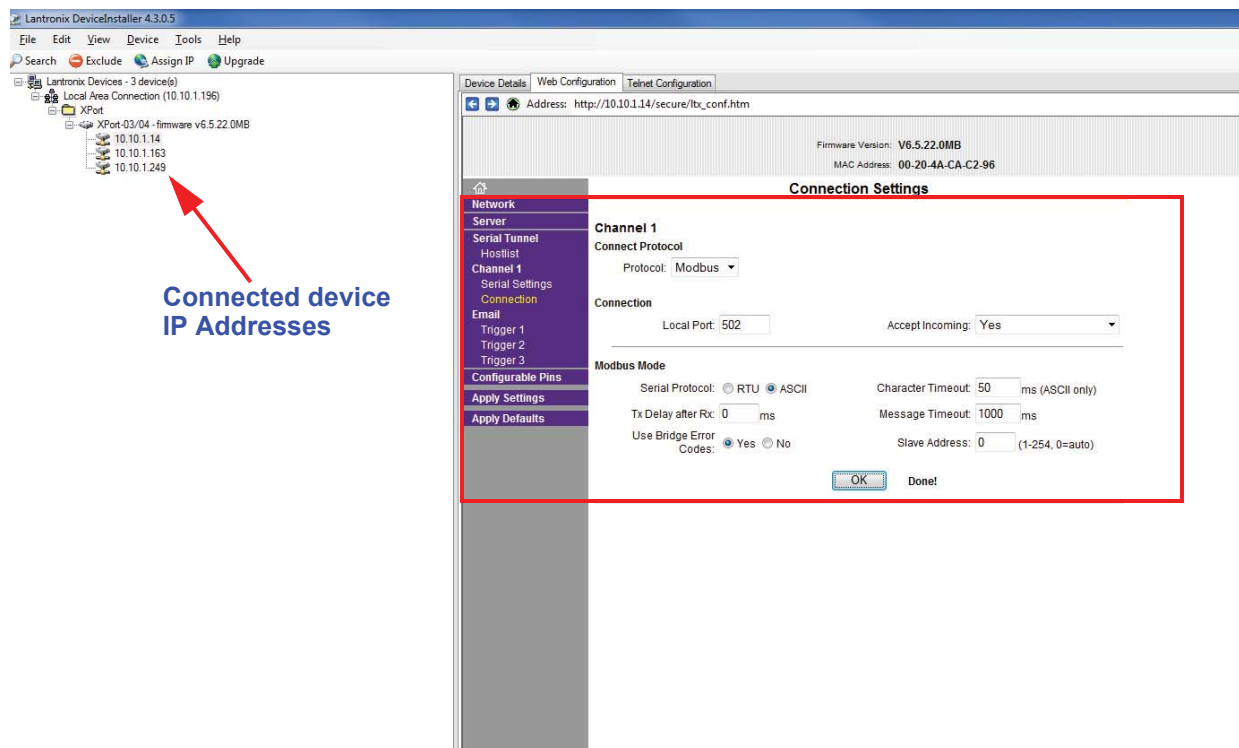

Figure 4-10 Connections
6. Select **Connections** as shown in Figure 4-10 and verify that **Connect Protocol** and **Connection** settings are set to the following: